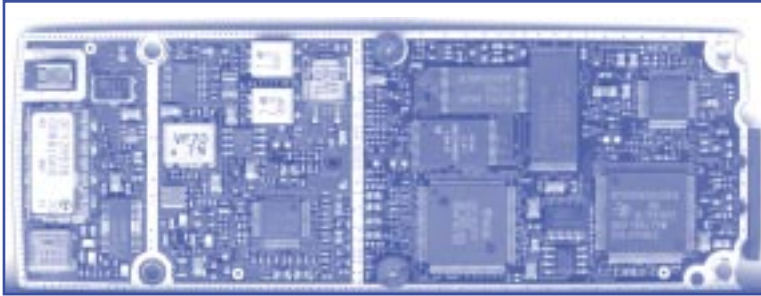

Fig. 2. The cell phone has too many discrete components.
Andy Krumel and Brion Shimamoto let me dismantle their cell phones. Now fig. 2 shows one of the cell phones. The cell phone has three sections separated by metal strips. The RF section is on the left; it contains the transmit/receive switch, antenna, local oscillator (receive), channel selection filter, and mixer. The middle is the IF section. The IF section separates
the information content (bit stream) from the “carrier wave.” The IF section contains amplifiers, filters, IF oscillator, IF mixer, and analog to digital converters. The RF and IF sections contain the transmitter’s components: digital to analog converters, local oscillator (transmit), modulators, and the power amplifier. The right half of fig. 2 is the “baseband” section, which interprets the demodulated signal and thus includes the digital processing and the user interfaces. The baseband section contains the microprocessor, digital signal processor, application-specific integrated circuits, and memory.
I didn’t count components in fig. 2, but there must be more than 200 in this circa 1998 cell phone. The integrated circuit (IC) has invaded the radio (including the cell phone), but it sure has not conquered it. The IC has been around for more than forty years; million-transistor ICs are common and cheap; why can’t the cell phone be a couple of ICs? The IC process is “planar,” meaning that ICs are two-dimensional. Inherently three-dimensional components don’t flatten well. Inductors, for example, can be implemented in ICs as a flat spiral, but such inductors suffer due to losses coupled into the substrate. To make an inductor with a high Q rating, you have to work in three dimensions. The alternating fixed and moving plates of the tuning capacitor can’t be duplicated in a flat semiconductor process.
It would be nice if the entire RF and IF sections of fig. 2 could be integrated into a single IC. Here’s what’s on and off the chip in typical RF and IF sections. In the RF section, the amplifiers, parts of the voltage-controlled oscillator, and the RF mixer are integrated into a single chip. The antenna, antenna switch, (ceramic) band-pass filter, transmit/receive switch, (ceramic) image rejection filter, the local oscillator’s crystal, and the inductors and capacitors for the oscillators and filters are independent components. In the IF section, the amplifiers, the automatic gain control, and the IF mixer are integrated. The IF filter and the inductors and capacitors for the oscillator are independent components. In the transmitter, the modulator and the power amplifier are integrated. The oscillator crystal and the capacitors and inductors for the oscillator and amplifier are independent components.